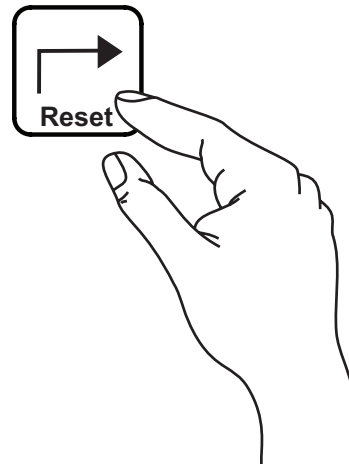

Figure 91. Reset Button
7. Diagnostic mode will remain active until the **Reset** button (Figure 91) is pressed or if the engine rpm becomes greater than zero.